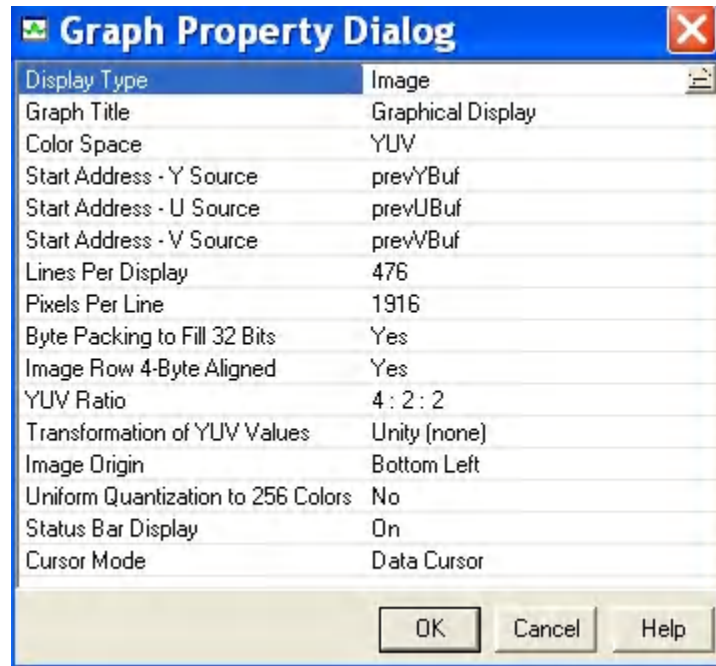

Figure 4. Graph Property Dialog settings for multipass application
8. The Graph Property Dialog will be displayed as shown in Figure 4. In Graph Property Dialog window enter all configuration values as shown in Figure 4.